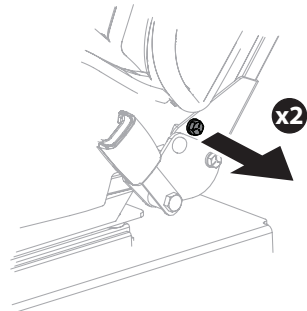

Figure 9
2. Remove the two screws (one right side, one left side) securing seat in shipping position (Figure 9).